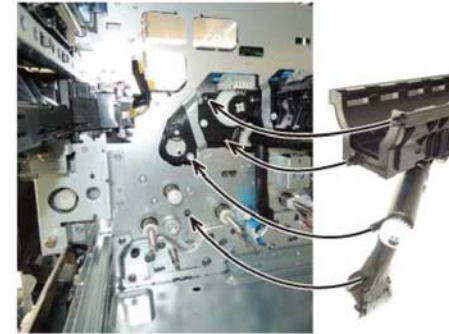

Figure 4 Dispenser K install
2. When installing dispenser (K), insert the boss (x4) at the rear of dispenser (K) into the installation holes, Figure 4.